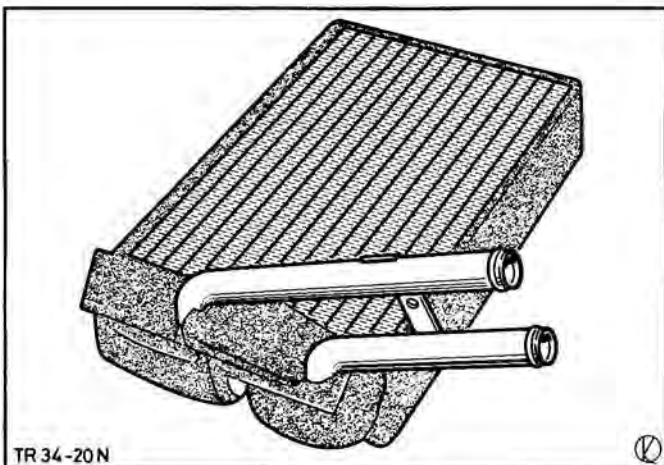

Fig.24. Heater radiator with foam gasket.
7. Carefully insert the heater radiator in the heater casing, replacing the foam gasket if necessary, Fig.24, and secure it to the heater casing with a screw.